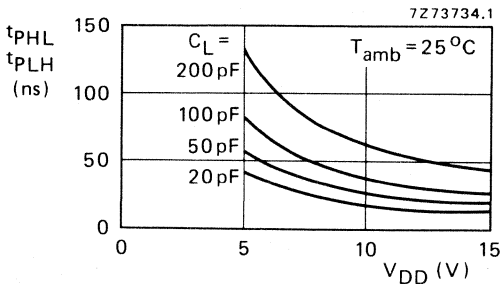

Fig.5 Propagation delays (symmetrical) as functions of power supply voltage for the HEF4011B.
1. Speed; Fig.5 shows propagation delays as functions of supply voltage. The best choice for slow applications is 5 V. For reasonably fast systems, choose 10 or 12 V. Any application requiring 15 V to achieve short delays and fast operation should be investigated for excessive power dissipation and should be weighed against an LS-TTL approach.